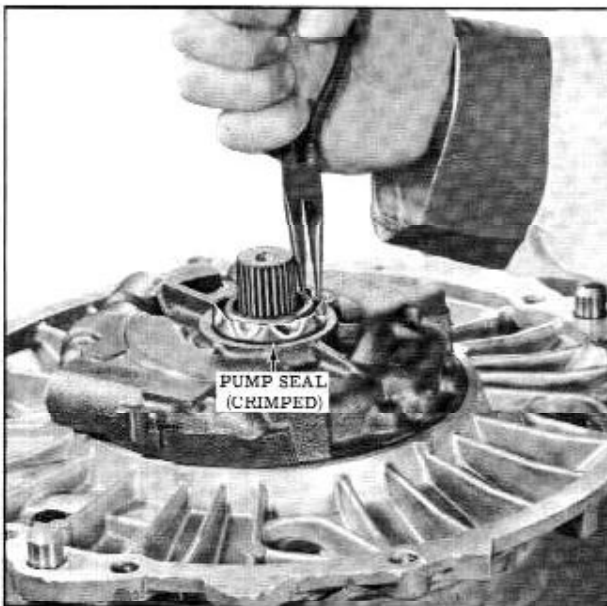

Figure 3-37 Removing Oil Pump Seal
2. If necessary, remove and discard the pump seal by crimping seal as shown in Fig. 3-37 and withdrawing seal with needle nose pliers.